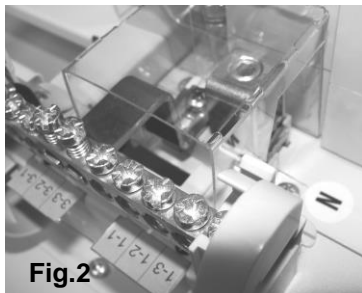

Fig.2
- 7) Remove left hand neutral terminal cover. Remove M5 screw from neutral moulding. Fit 'S' link shown in Fig. 2 with previously removed M5 screw. Raise the 2 screws adjacent to the movable neutral 'S' link. Slide 'S' link to engage with 2 terminal screws, tighten terminal screws and M5 screw, (See table below for torque value) & replace neutral bar shroud. See Figure 2.
- 8) Fit main incoming neutral cable to terminal and replace neutral terminal shroud. See Fig. 2